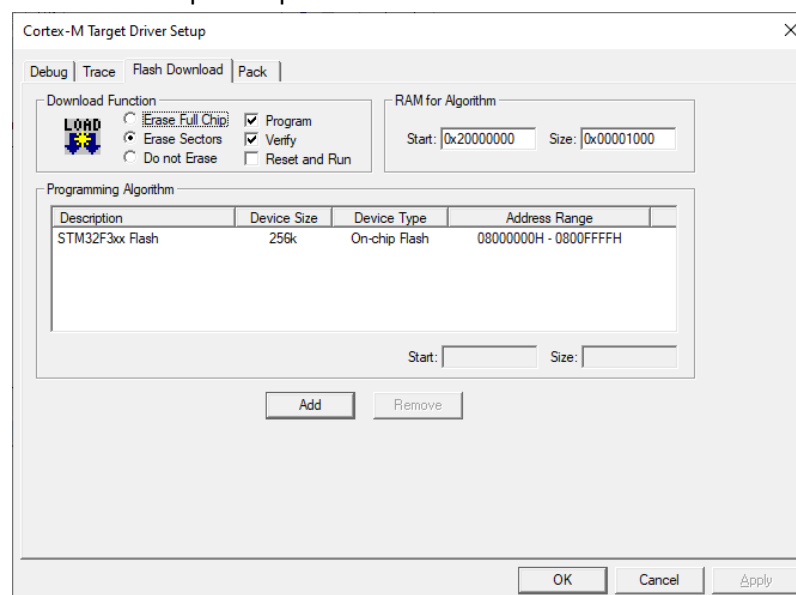

Figure 8. STM32F3xx flash programming algorithm selected
- Click on the **Flash Download** tab of the Cortex-M Target Driver Setup Window (Figure 8) and under **Programming Algorithm**, click the **ADD** button and select **STM32F3xx 256kB Flash**. Then you can close the setup and options windows.